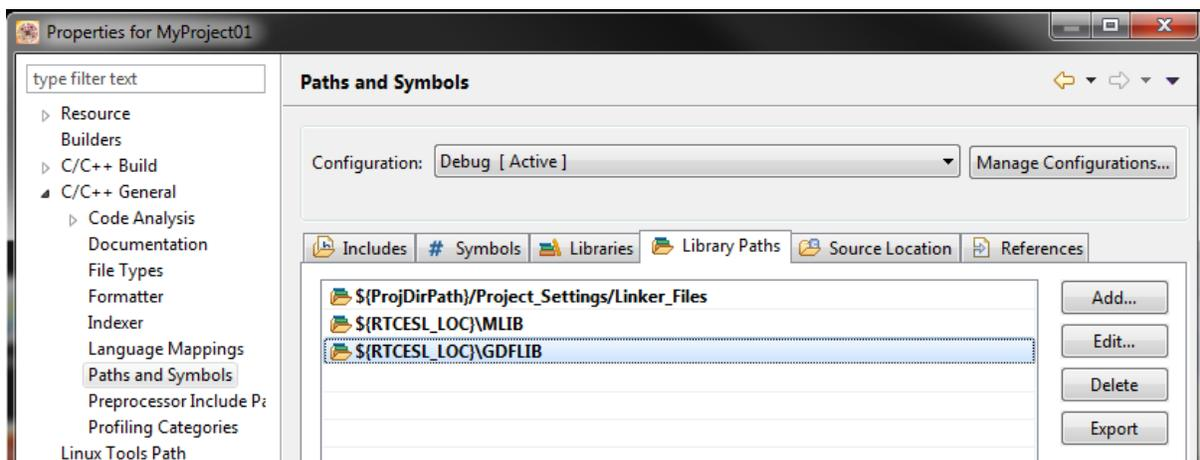

Figure 1-22. Library paths
3. In the right-hand dialog, select the Library Paths tab. See Figure 1-22.
8. Click OK, and the paths will be visible in the list. See Figure 1-22.